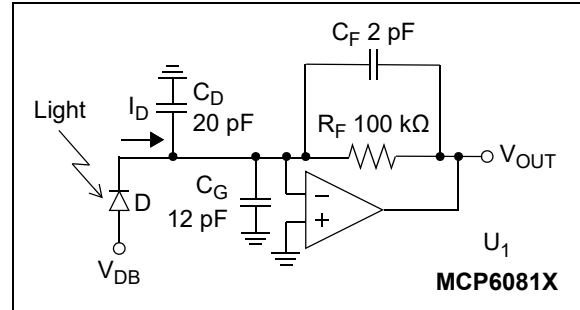

FIGURE 4-10: Photodiode Detector Circuit.
The circuit in Figure 4-10 has a photodiode detector (D) that has parasitic capacitance, C_D and produces an output current, I_D . V_{DB} biases the photodiode detector so that it is either in photovoltaic mode (at 0V, like U_1 's noninverting input) or photoconductive mode (less than 0V). Photovoltaic mode has a linear response to light, while photoconductive mode is faster.
Other photovoltaic detector circuits come with different trade-offs. The circuit in Figure 4-10 is faster than a circuit that does not require C_F , but needs a much faster operational amplifier. Other implementation details can vary as well.